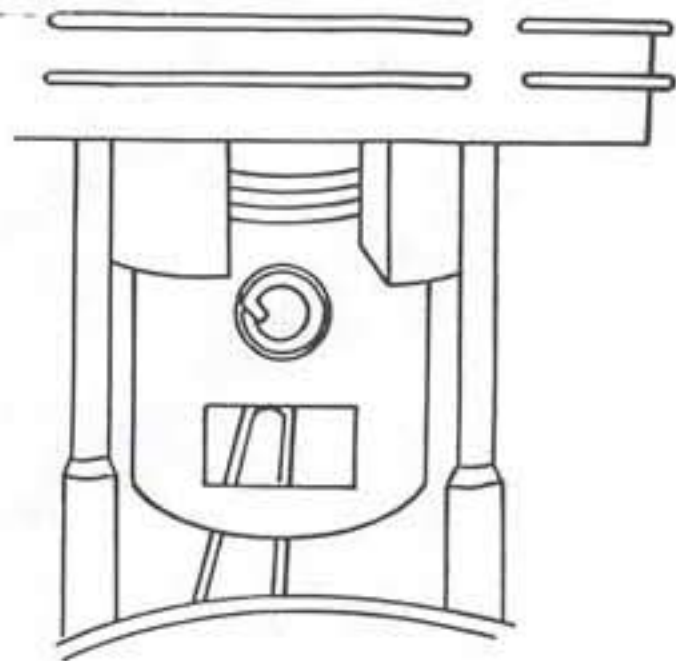

Fig. 8
- Place the cylinder on the heated piston without the rings or piston pin clips installed. The cylinder will slide down as the temperature evens out. This operation prevents piston distortion while cooling (fig. 8).